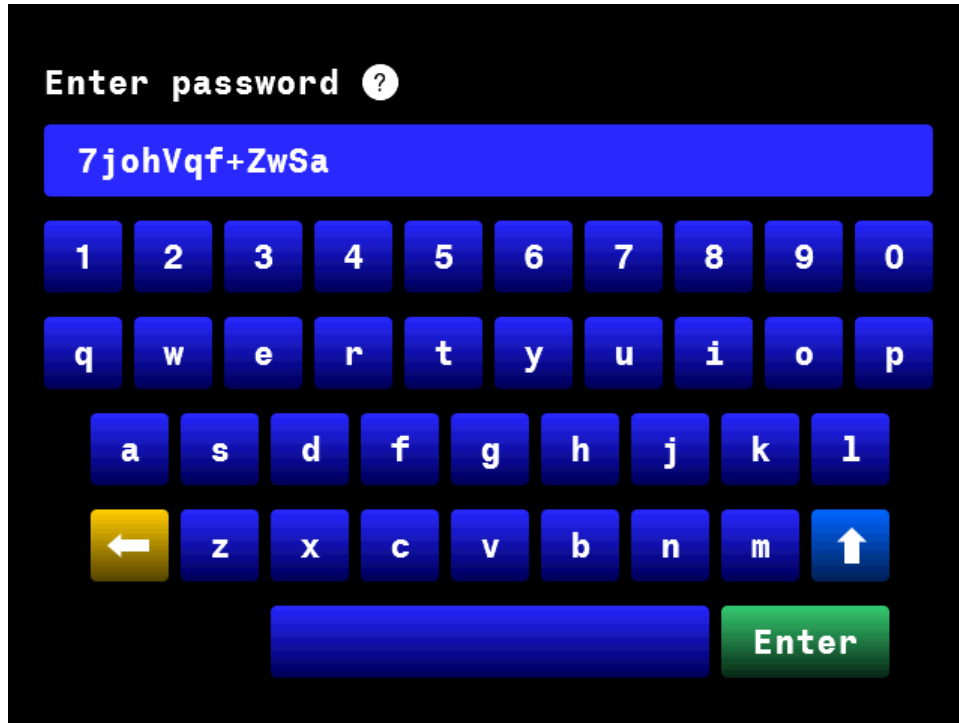

Figure 2.2 Automatically generated temporary key
8. The **question mark button** generates a temporary key for users who have lost or forgotten their password. The temporary key is not a password. Contact Vante or your distributor to obtain the temporary password associated with the temporary key. See Figure 2.2.